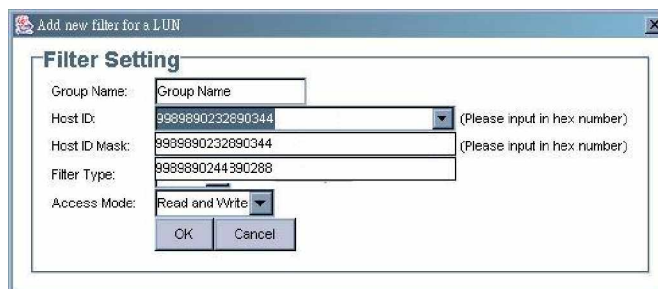

Figure 10-9: Host ID Menu
Step 4. A new screen will appear in the content window. From this screen, first select appropriate values for each LUN filtering setting text field. Host HBA port names that are seen by the controller/subsystem should appear in the **Host ID** pull-down menu. (See *Figure 10-9*)